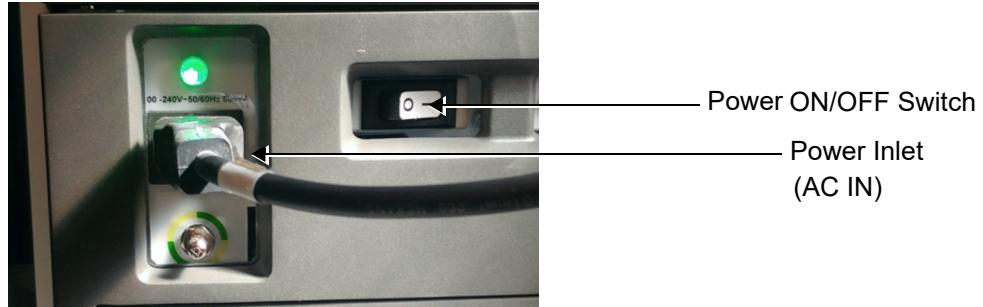

Figure 4-1 Power ON/OFF Switch and Power (AC IN) Socket - Rear Panel
- 5.) Connect the AC Power Cable female plug to the Power Inlet (AC IN) at the rear of the unit - see Figure 4-1.